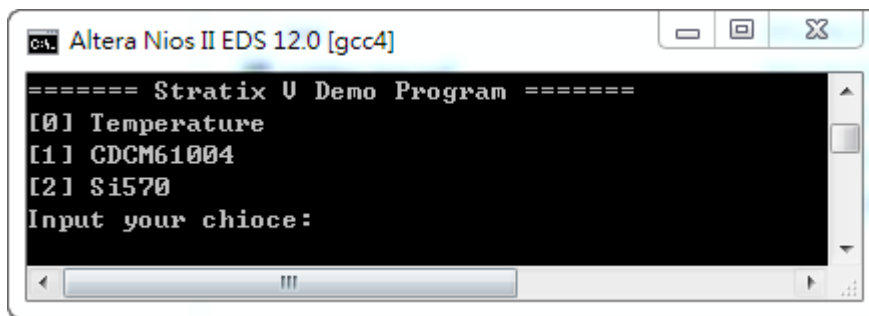

Figure 5-7 Menu of Demo Program
- For temperature test, please input key '0' and press 'Enter' in the nios-terminal, as shown in **Figure 5-7**.